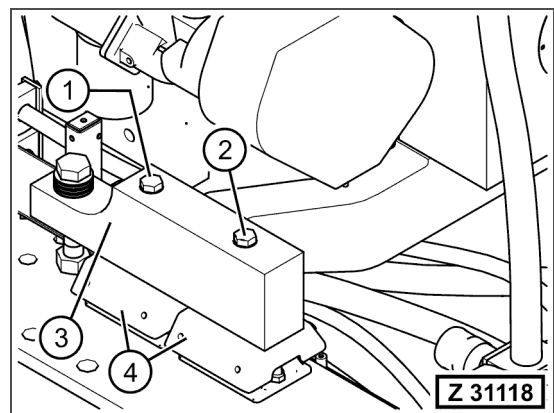

Fig. 3-56
48. Disassemble the mounting bolts (Fig. 3-56, Pos. 1 & 2) at both sides of the engine torque support (Fig. 3-56, Pos. 3).
REMARKS: The front mounting bolts (Fig. 3-56, Pos. 2) run through the flexible mounts (Fig. 3-56, Pos. 4) and are secured by nuts.